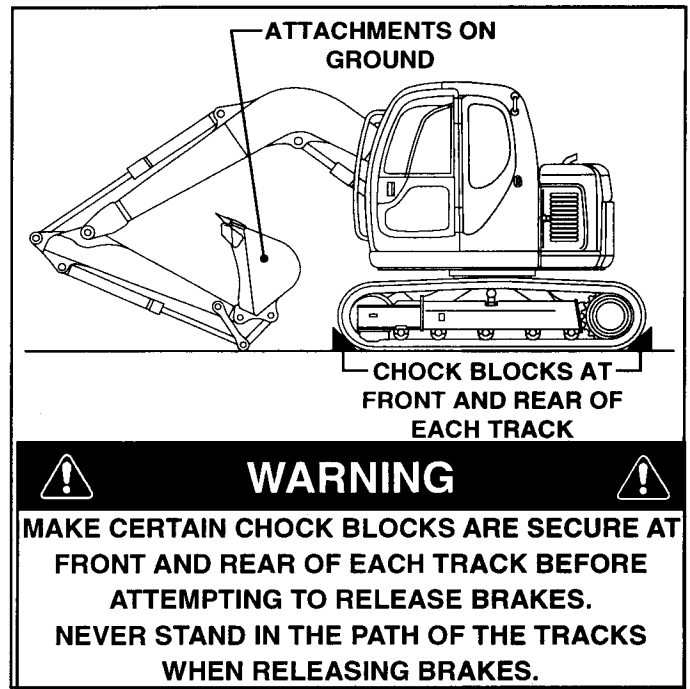

FIGURE 9.1
1. Place Chock Blocks at Front and Rear of each track to prevent machine from moving when brakes are released. See Figure 9.1.